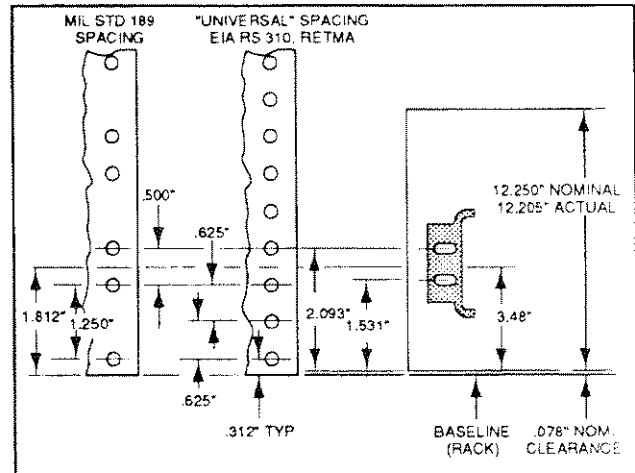

Figure 1-2. Rackmount hole spacing.
**Rackmounting.** The 370A fits most commercial consoles and 19-inch racks with rail holes that conform to universal spacing. See Figure 1-2 for hole spacing details.
1. Select the appropriate holes in the rack rail, using Figure 1-2 as a guide.